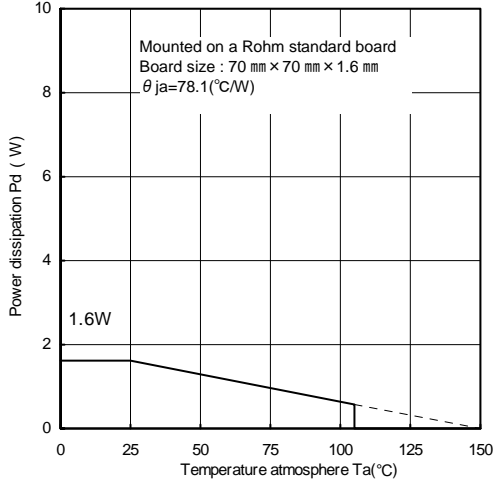
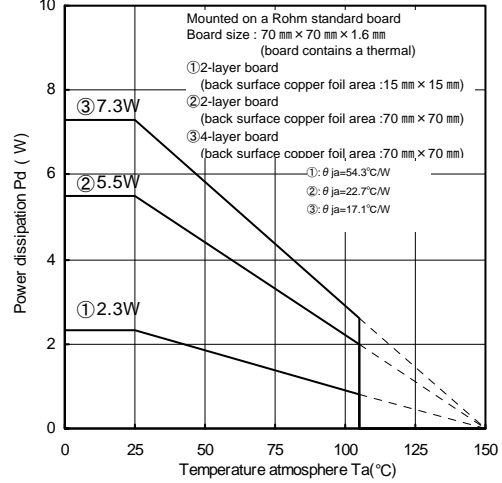

Fig.15
Fig.16 (Reference data)
When using at temperatures over  $T_a=25^{\circ}\text{C}$ , please refer to the heat reducing characteristics shown in Fig.15. and Fig.16. The IC characteristics are closely related to the temperature at which the IC is used, so it is necessary to operate the IC at temperatures less than the maximum junction temperature  $T_{j\text{max}}$ .
Fig.15 and Fig.16 shows the acceptable loss and heat reducing characteristics of the HRP5 package. Even when the ambient temperature  $T_a$  is a normal temperature ( $25^{\circ}\text{C}$ ), the chip (junction) temperature  $T_j$  may be quite high so please operate the IC at temperatures less than the acceptable loss  $P_d$ .
The calculation method for power consumption  $P_c(\text{W})$  is as follows :(Fig.16③)
$\left[ \begin{array}{l} \text{Fig.16③: } \theta_{ja} = 17.1^{\circ}\text{C/W} \rightarrow -58.4\text{mW}/^{\circ}\text{C} \\ 25^{\circ}\text{C} = 7.3\text{W} \rightarrow 85^{\circ}\text{C} = 3.796\text{W} \end{array} \right]$